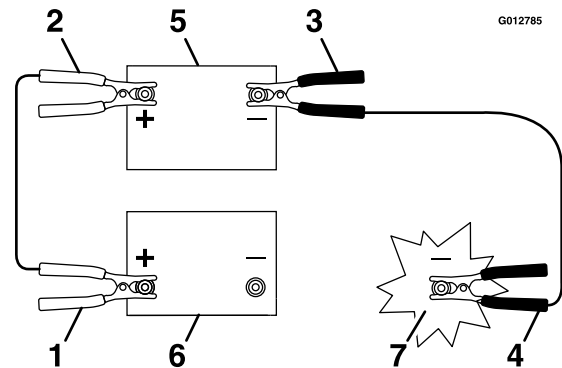

Figure 83
4. Connect the positive (+) cable to the positive (+) terminal of the discharged battery that is wired to the starter or solenoid as shown in Figure 83.